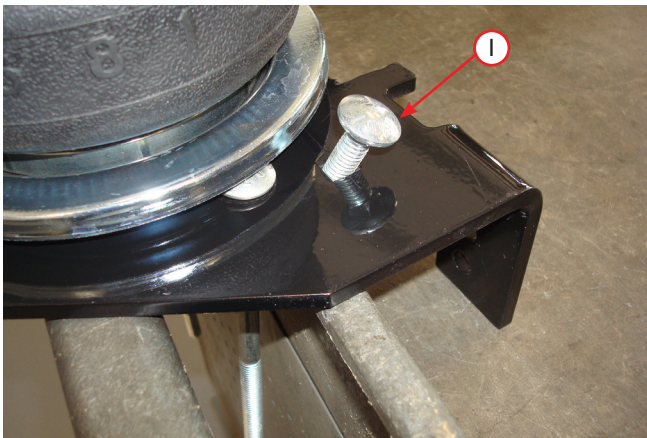
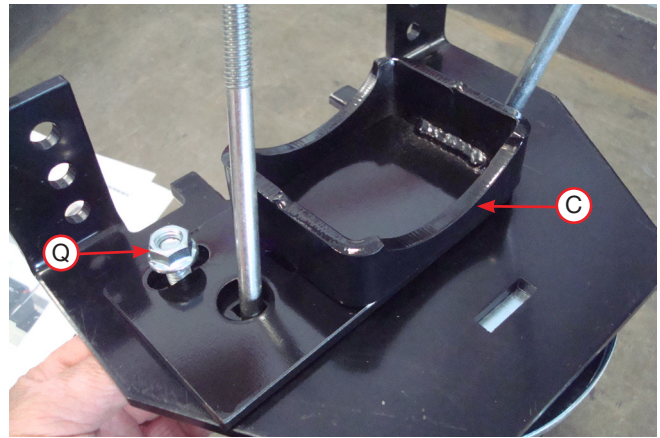

Fig. 13
Fig. 14
- Insert the 3/8"-16 x 1" carriage bolt (I) (Fig. 13) through the top of the lower bracket. Flip over the assembly and install the lower bracket cup (C) onto the lower bracket main plate over carriage bolt and cap with serrated flange lock nut (Q) (Fig. 14). Snug bolt down but leave loose enough for the bracket to move freely in slot.